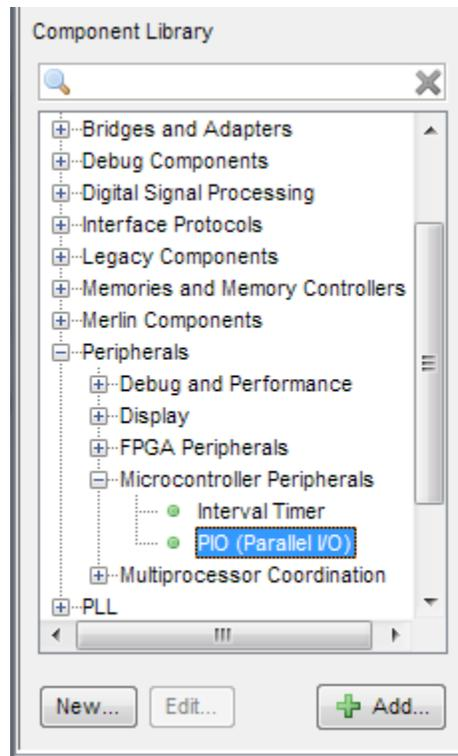
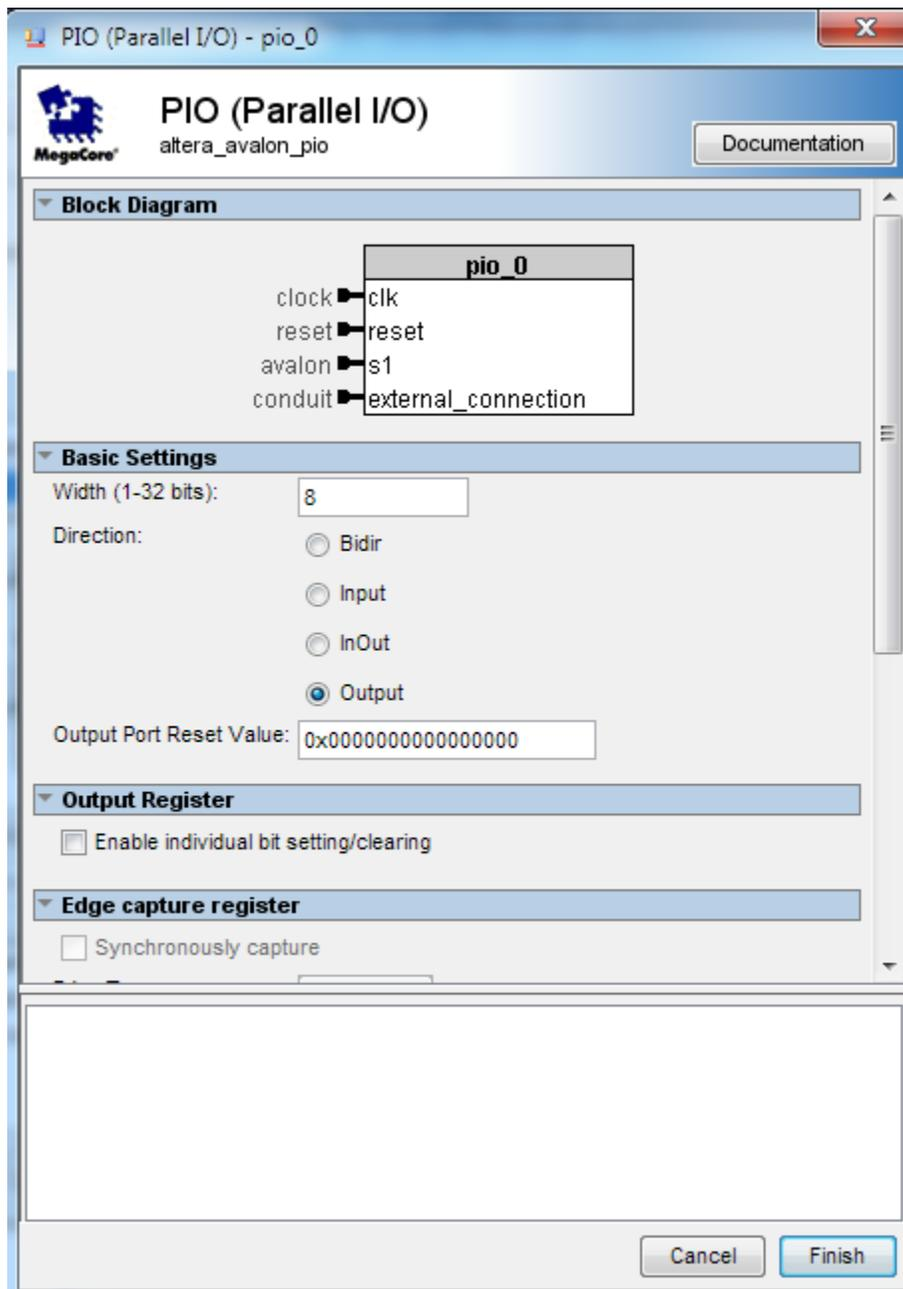

Figure 1-30 Add PIO
Figure 1-31 Add PIO
19. Choose **Library > Peripherals > Microcontroller Peripherals >PIO (Parallel I/O)** to open wizard of adding PIO. See Figure 1-30 and Figure 1-31.